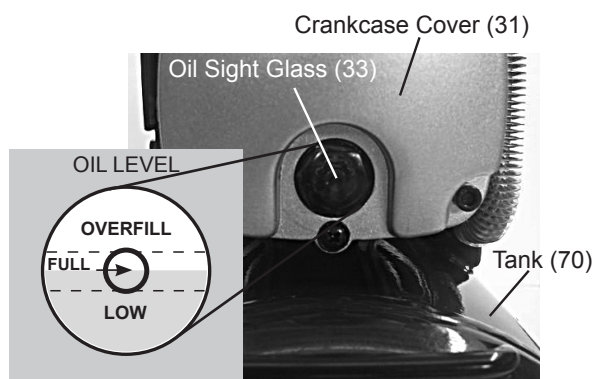

Figure 5
2. The oil level should be at the center of the “full” level on the oil level sight glass, as shown in Figure 5. Add oil as needed to maintain this level. Do not let the oil level go below the center dot (LOW as shown above) and do not overfill the oil so that it is above the center dot (OVERFILL as shown above) on the sight glass.
- a. Remove the Oil Plug (37).
- b. Using a funnel to avoid spills, pour enough oil into the Pump Crankcase (39) to reach the “full” level in the Oil Sight Glass (33).